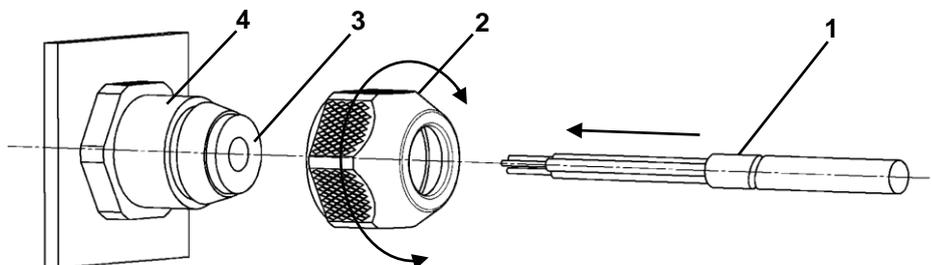

Figure 9: Connection PG-/cable screw gland
- Loosen the screwcap pos. 2.
- Lead the connection cable pos. 1 through the screwcap pos. 2, the moulded seal pos. 3 and the intermediate supports pos. 4 (Fig. 9).
- Fasten the screwcap pos. 2 once more.